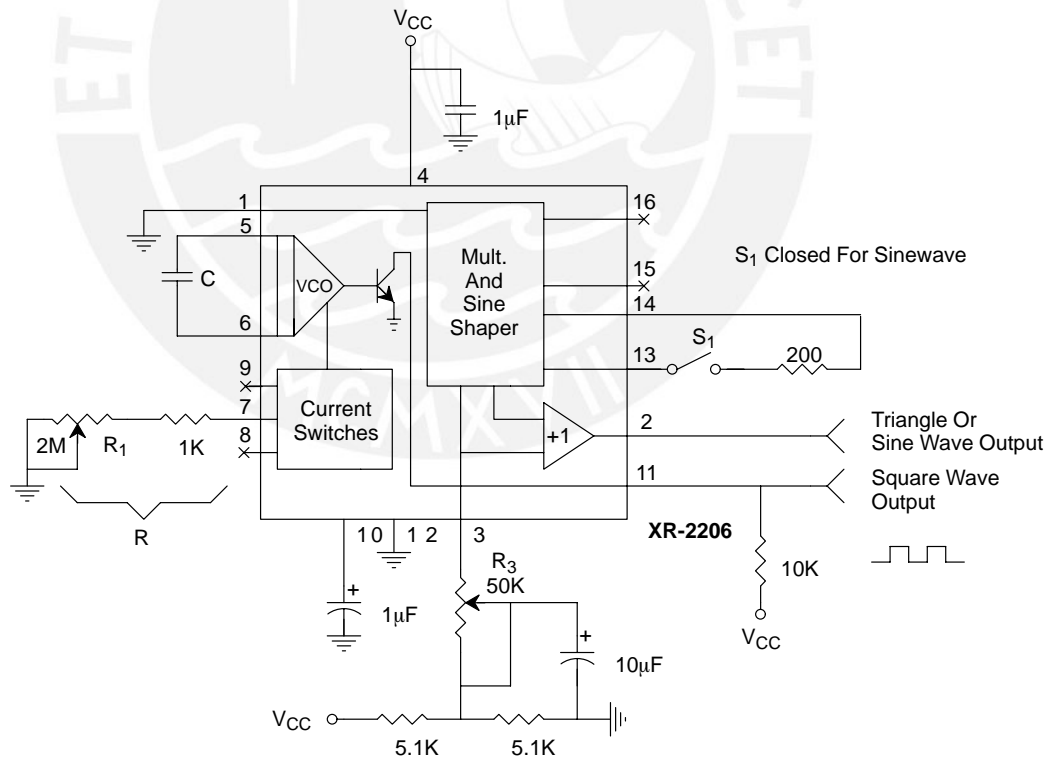
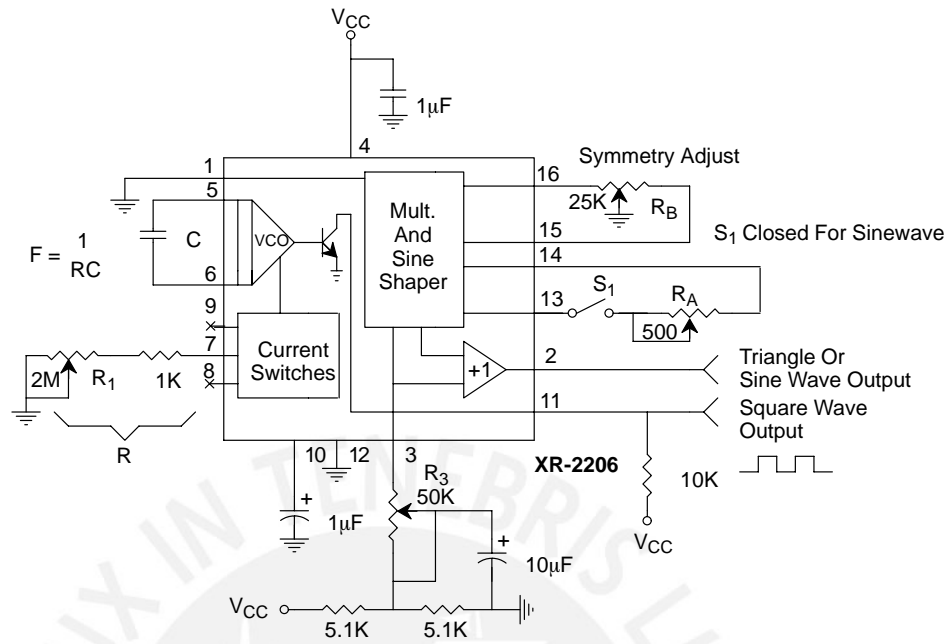
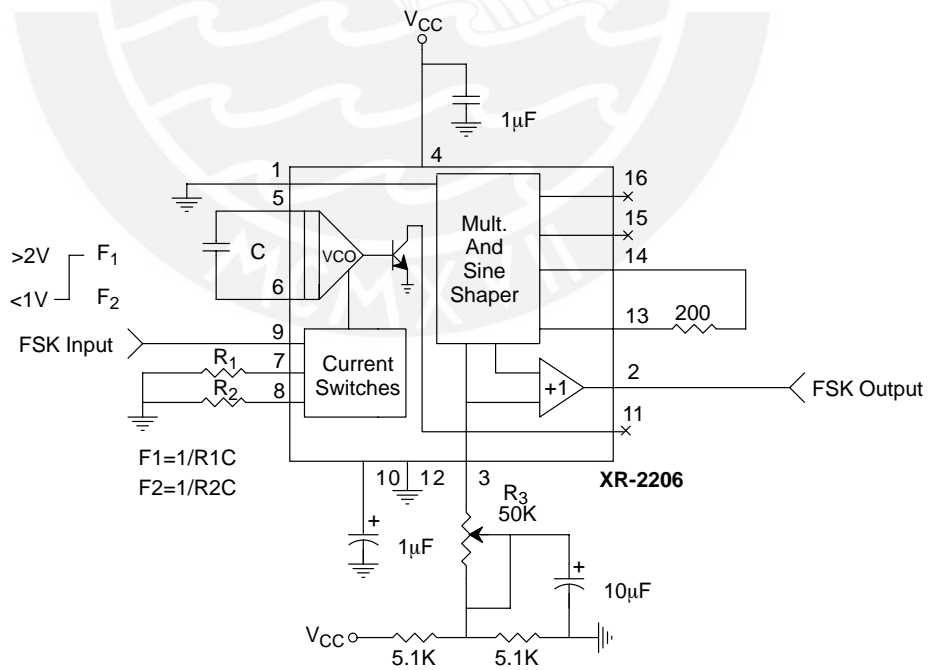

Figure 11. Circuit for Sine Wave Generation without External Adjustment.
Figure 12. Circuit for Sine Wave Generation with Minimum Harmonic Distortion. ( $R_3$  Determines Output Swing - See Figure 3)
Figure 13. Sinusoidal FSK Generator
The XR-2206 can be operated with two separate timing resistors,  $R_1$  and  $R_2$ , connected to the timing Pin 7 and 8, respectively, as shown in *Figure 13*. Depending on the polarity of the logic signal at Pin 9, either one or the other of these timing resistors is activated. If Pin 9 is open-circuited or connected to a bias voltage  $\geq 2V$ , only  $R_1$  is activated. Similarly, if the voltage level at Pin 9 is  $\leq 1V$ , only  $R_2$  is activated. Thus, the output frequency can be keyed between two levels.  $f_1$  and  $f_2$ , as:
The dc level at the output (Pin 2) is approximately the same as the dc bias at Pin 3. In *Figure 11*, *Figure 12* and *Figure 13*, Pin 3 is biased midway between  $V^+$  and ground, to give an output dc level of  $\approx V^+/2$ .
*Figure 11* shows the circuit connection for generating a sinusoidal output from the XR-2206. The potentiometer,  $R_1$  at Pin 7, provides the desired frequency tuning. The maximum output swing is greater than  $V^+/2$ , and the typical distortion (THD) is  $< 2.5\%$ . If lower sine wave distortion is desired, additional adjustments can be provided as described in the following section.
The circuit of *Figure 11* can be converted to split-supply operation, simply by replacing all ground connections with  $V^-$ . For split-supply operation,  $R_3$  can be directly connected to ground.
The harmonic content of sinusoidal output can be reduced to -0.5% by additional adjustments as shown in *Figure 12*. The potentiometer,  $R_A$ , adjusts the sine-shaping resistor, and  $R_B$  provides the fine adjustment for the waveform symmetry. The adjustment procedure is as follows:
The circuits of *Figure 11* and *Figure 12* can be converted to triangle wave generation, by simply open-circuiting Pin 13 and 14 (i.e.,  $S_1$  open). Amplitude of the triangle is approximately twice the sine wave output.
*Figure 13* shows the circuit connection for sinusoidal FSK signal operation. Mark and space frequencies can be independently adjusted by the choice of timing resistors,  $R_1$  and  $R_2$ ; the output is phase-continuous during transitions. The keying signal is applied to Pin 9. The circuit can be converted to split-supply operation by simply replacing ground with  $V^-$ .